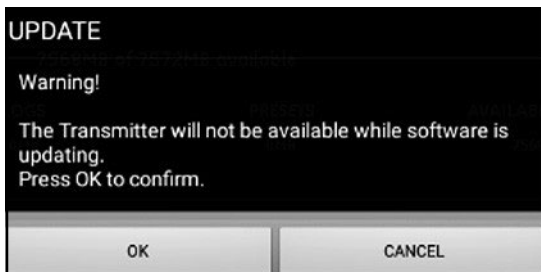

Figure 122: Update Confirmation Screen
- At the screen shown in Figure 122 below, click the OK button to confirm the update and continue.